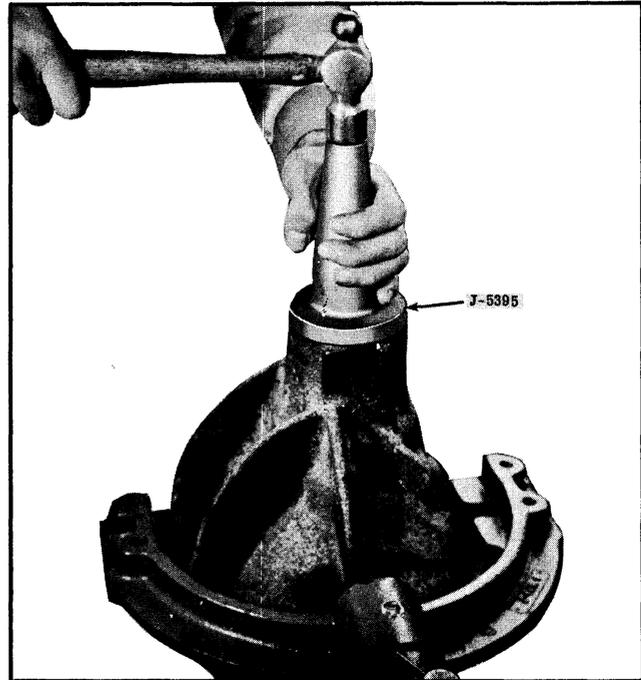

Fig. 6-11 Installing Pinion Oil Seal
7. Coat sparingly outside diameter of new seal with Permatex No. 3 and install seal using driver J-5395 to properly locate seal in carrier. (See Fig. 6-11)